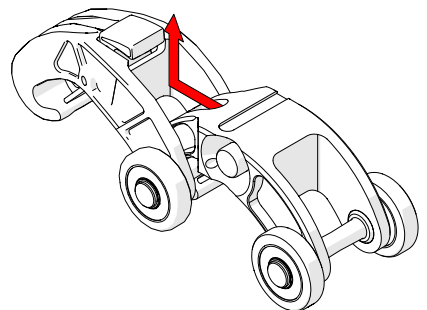

Fig. 75 - Slide link forward and lift
2. While pressing the button, slide the dovetail QuickLink forward and up, clearing the hook of the dovetail QuickLink from the QuickLink's axle (Fig. 75).